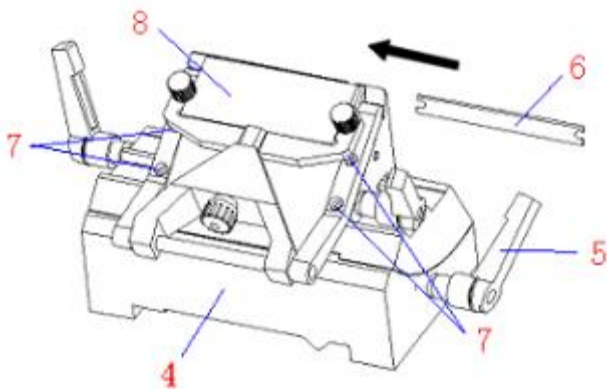

Fig 21
As showed in fig 21, loosen the fixed lever (5) and push the blade (6) into blade holder (4), then rotate the lever (5) to clamp the blade.